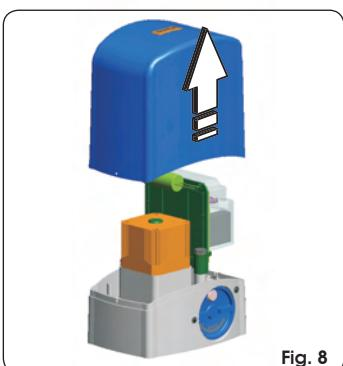

Fig. 8
- Withdraw the protective housing, pulling it up, Fig. 8.